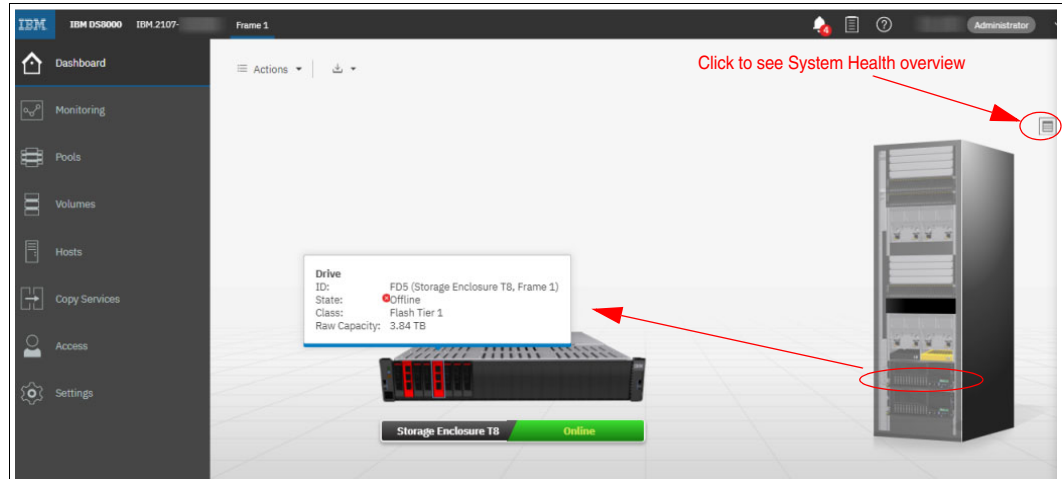

Figure 9-101 Hardware view with failed drives
- ▶ **Failed drives:** Figure 9-101 shows two failed drives in one of the storage enclosures of the system. Clicking this enclosure from the Hardware view provides a detailed view of the enclosure with all the drives, including the failed drives. Hovering your cursor over the failed drives provide more information about them.
The same information can be obtained by clicking the **Show System Health Overview** icon, as shown in Figure 9-101.